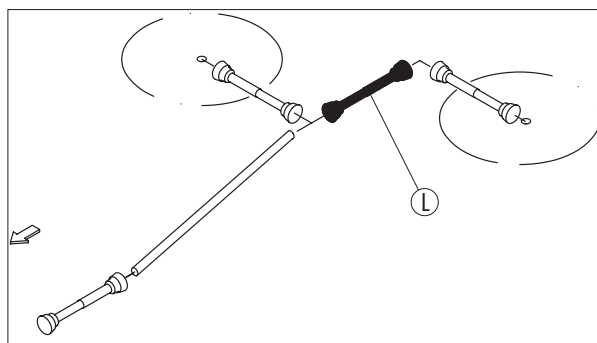

Fig. 3-27
Mount the long cardan shaft without clutch (L) between the rotary units (fig. 3-27).